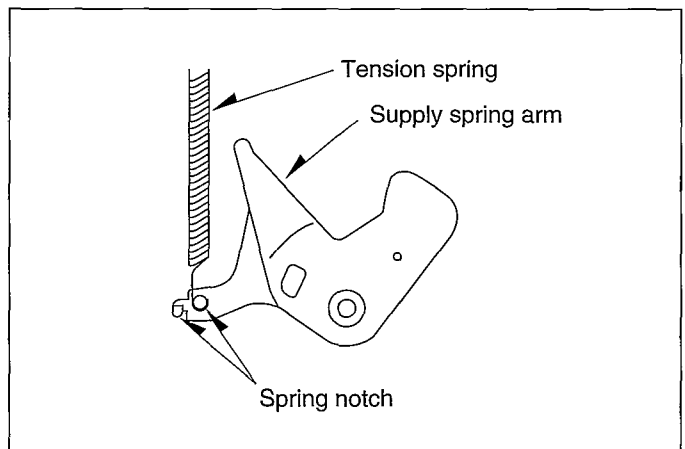

Fig. M3
- (3) If it is out of specification, change the spring notch as shown in Fig. M3.